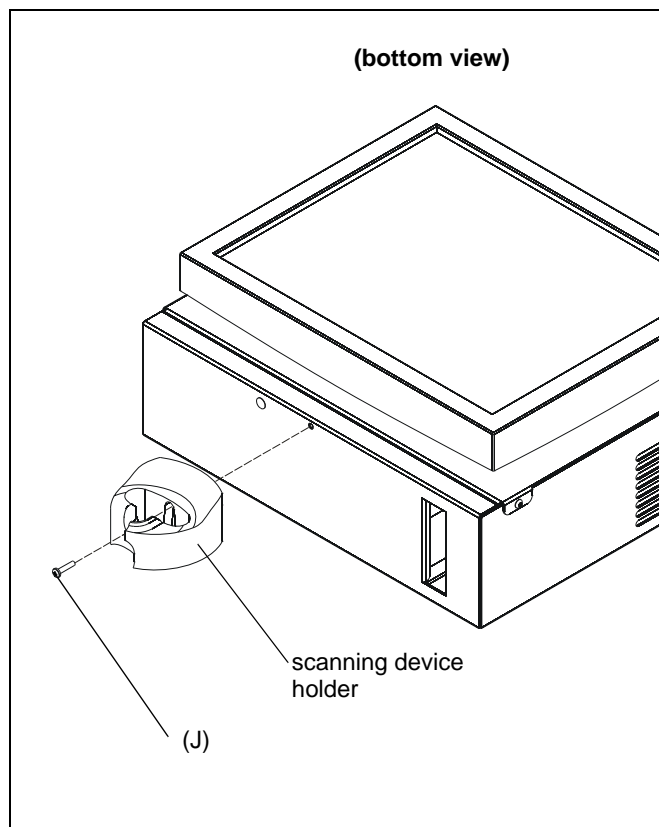

Figure 7
1. Install #10-24 x 7/8" Phillips pan machine screws (J) through scanning device holder (not included) and into the hole in the bottom of CPU holder. (See Figure 7)